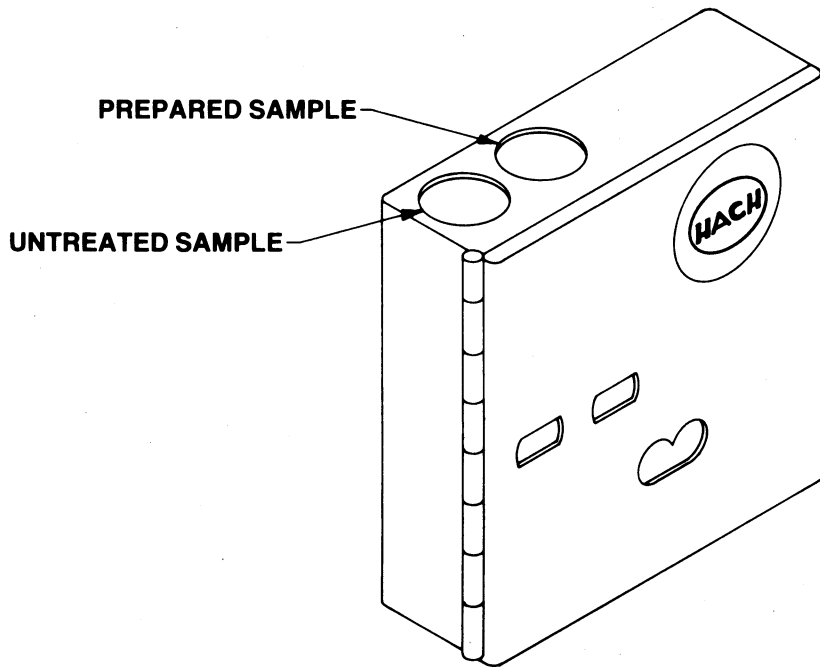

Figure 2
2. Add three drops of Buffer Solution, Hardness 1, to the mixing bottle. Swirl to mix as shown in Figure 2.